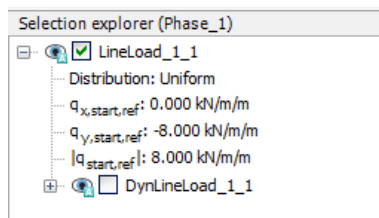

Figure 12.4 Specification of the static load component in the *Selection explorer*
- Activate the static component of the distributed load. In the *Selection explorer* set $q_{y,start,ref}$ value to -8 kN/m/m. Do not activate the dynamic component of the load (Figure 12.4).